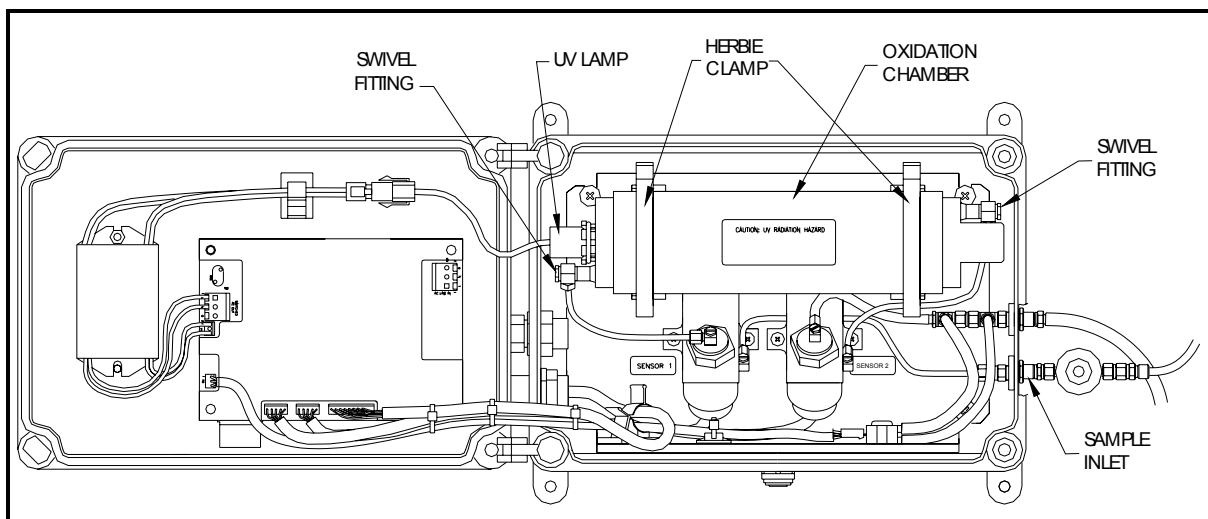

Figure 12. Oxidation Chamber Assembly
5. Unsnap the “herbie” clamps on either end of the oxidation chamber assembly and slide them free of their mounting saddles. See Figure 12.